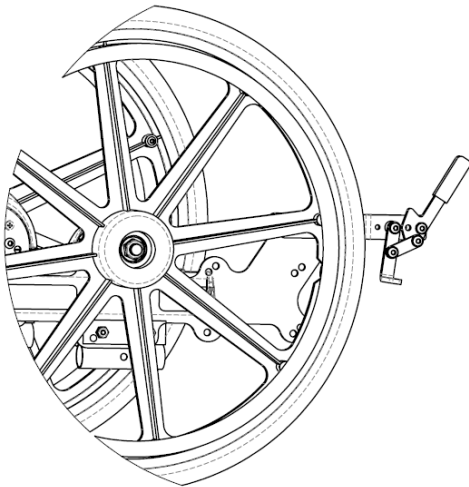

Figure 10.24: *Attendant Wheel Lock (Push to Lock)*
3. To engage the attendant wheel lock (see Figure 10.24), push the lever towards the wheel until it locks into place.